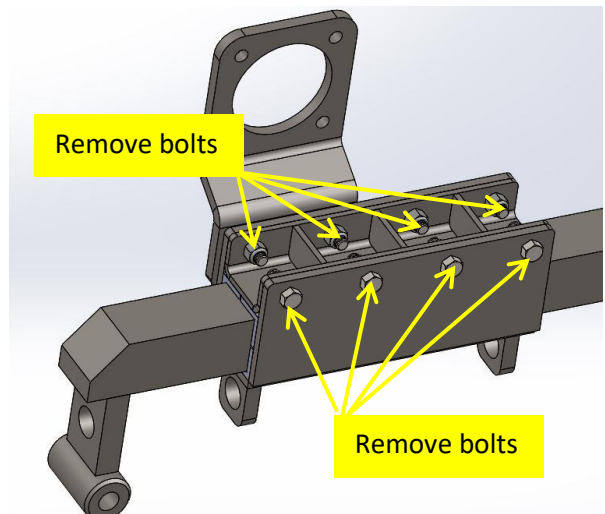

Figure 4
7. Remove all twelve (12) of the motor mount assembly bolts to disassemble the motor mount from the sliding mechanism. The existing plastic angle guides, components removed in step 4 will be reused in the assembly of the retrofit motor mount assembly. **Figures 4 & 5**